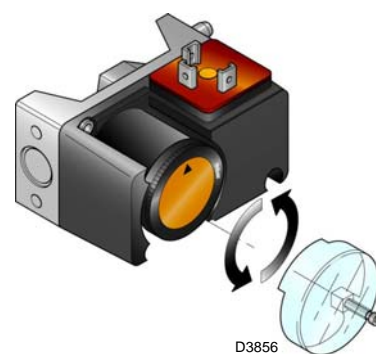

Fig. 32
- Adjust the maximum gas pressure switch (Fig. 32 at page 31) to the end of the scale.
Adjust the maximum gas pressure switch (Fig. 32) after having performed all other burner adjustments with the maximum gas pressure switch set to the end of the scale.